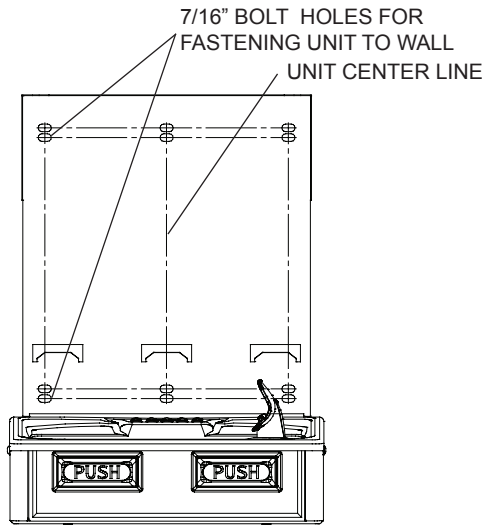

Fig. 5
- 2) **Remove wall mounting plate from Bottle Filler.** Place wall plate against wall on top of basin. Center the wall plate side to side with the basin. Mark the six (6) mounting holes with a pencil (See Fig. 5).
- 4) **Install wall mounting plate to wall** using six (6) 7/16" oround mounting holes (mounting bolts not included) (See Fig. 5). Use appropriate fasteners for your wall type.